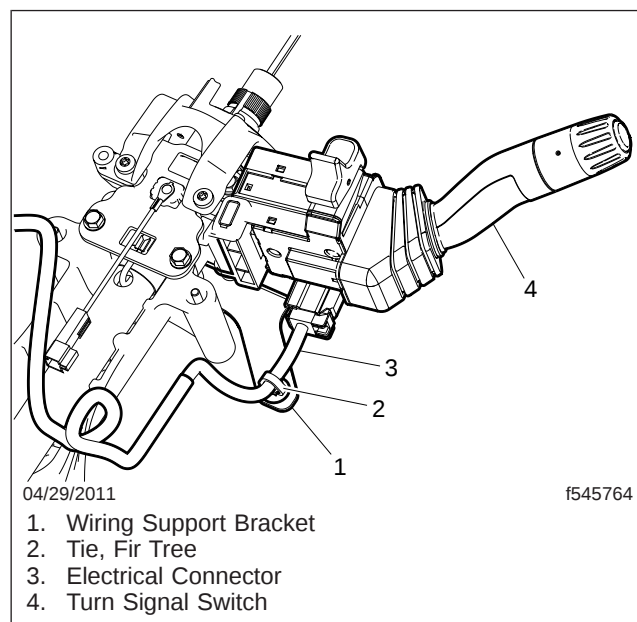

Fig. 4, New Turn Signal Switch Installation (reverse view)
9. Secure the multifunction turn signal switch wiring harness to the support bracket with the tie strap (23-13482-001). See Fig. 4.